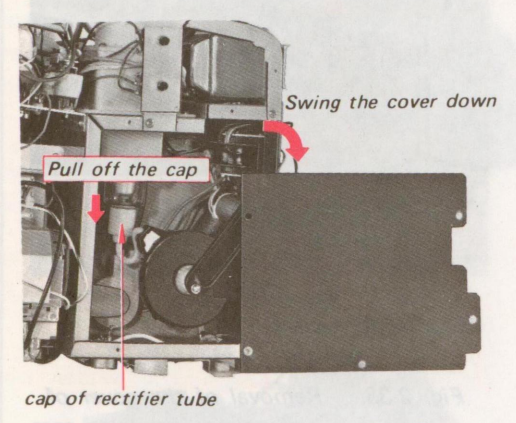

Fig.2-35. Removal of the lid of high-voltage cage
- Swing the cover of high voltage cage down as shown in Fig. 2-35.